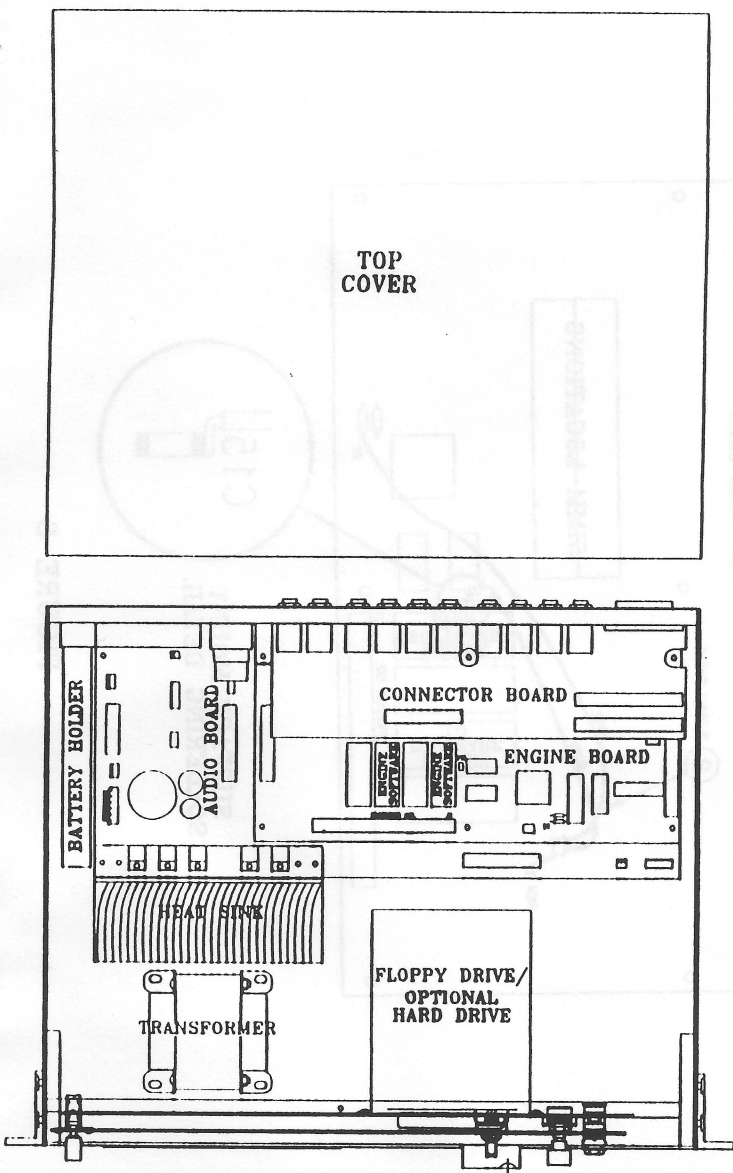

FIGURE 5
- 3 Slide the cover away from you and lift it off. See Figure 5.
- 4 Locate the P-RAM Option cable (item 2). Refer to Figures 5 and 6, and locate the capacitor labeled C15 on the Engine board. Solder the cable's green wire to the side of the capacitor toward the rear of the unit (the side closest to the label "C15").
- 6 Locate the 64-pin connector labeled "PROCESSOR EXP" (J1) near the left front corner of the Engine board. See Figures 5 and 6.